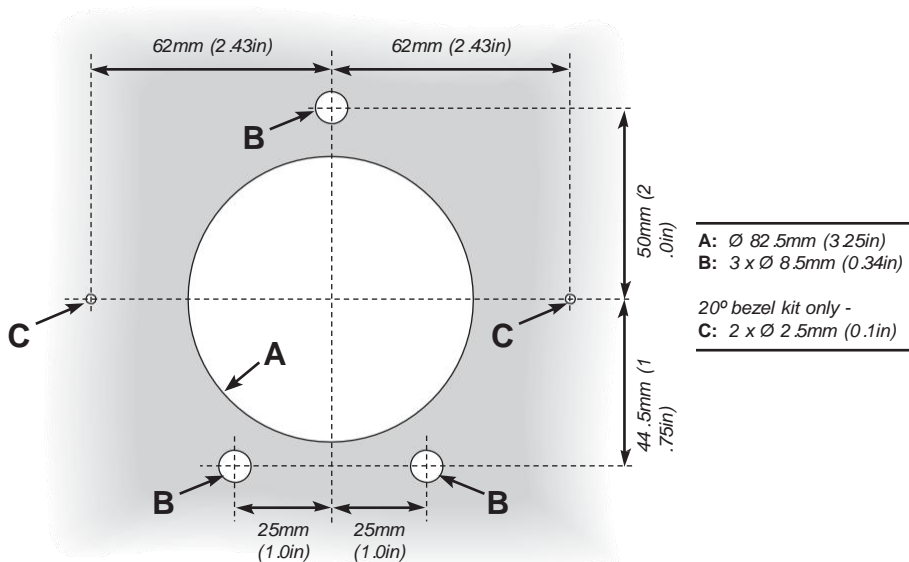

Fig B8 - Mounting holes for 90° and 20° bezel plates
- Prepare dashboard to receive drive bezel plate. Refer to Fig B8 or use the bezel plate as a template for the mounting holes that will need to be drilled.